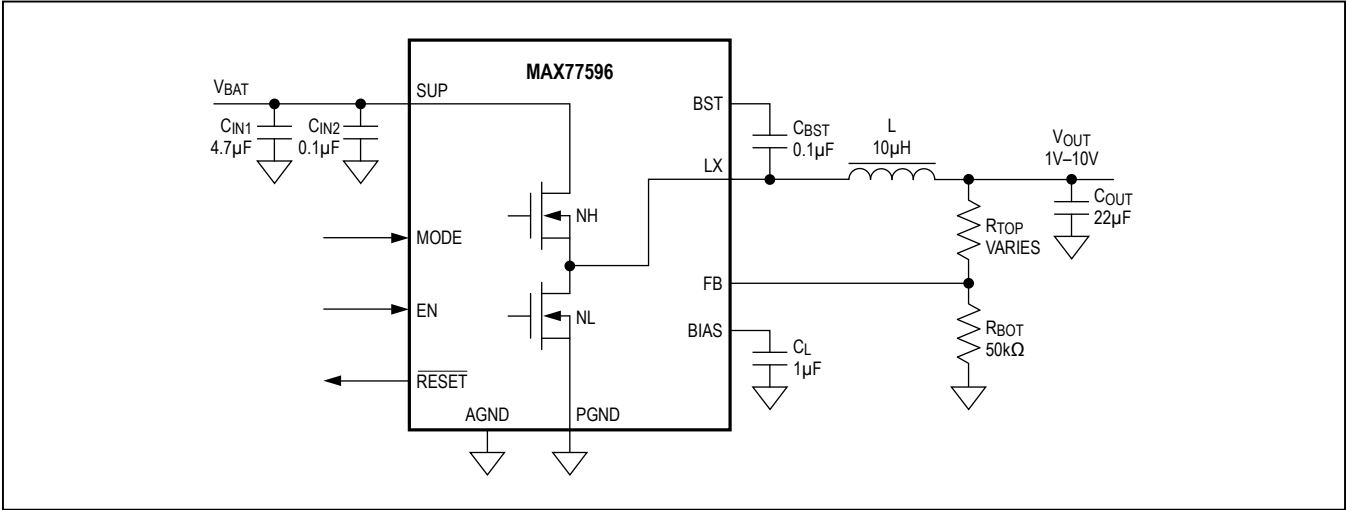

Figure 3. MAX77596ETBC+, Variable Output Voltage, 10-Pin TDFN
- 1) The input capacitor (4.7µF, see Figures 3 and 4) should be placed immediately next to the SUP pin of the device. Since the device operates at 1.7MHz switching frequency, this placement is critical for effective decoupling of high-frequency noise from the SUP pin.